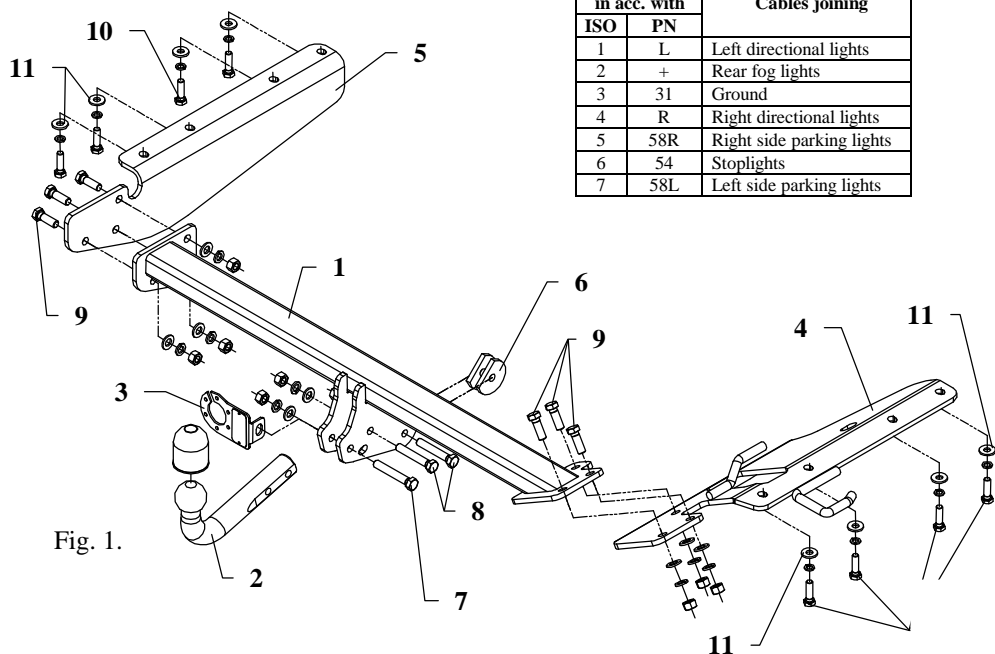
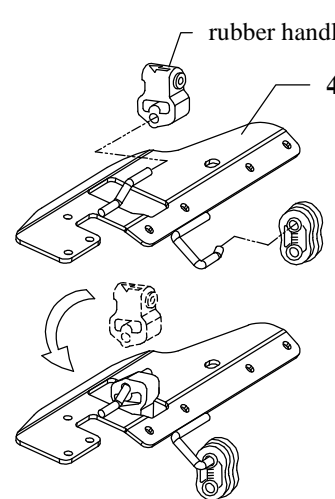

Fig. 1.
Fig. 2. The manner of the assembly handles of the muffler
3. Rubber handles of the muffler assemble on right bracket of the towbar (pos. 4) – see figure 2.
4. Right bracket (pos. 4) fix loosely to the right chassis member by bolts M10x1,25x35mm (pos. 11) and flat washers (pos. 11).
5. Left bracket (pos. 5) fix loosely to the left chassis member by bolts M10x1,25x35mm (pos. 11) and flat washers (pos. 11).
6. Between mounted brackets (pos. 4 and 5) put main bar of the towbar (pos. 1) and fix it by bolts M12x35mm (pos. 9) and by bolt M12x70mm (pos. 8) to the original towing eye. Use two cut washers (pos. 6), see figure 1.
8. Fix tow-ball (pos. 2) with socket plate (pos. 3) using bolts M12x75mm (pos. 7) and M12x70mm (pos. 8) from accessories. See figure 1.